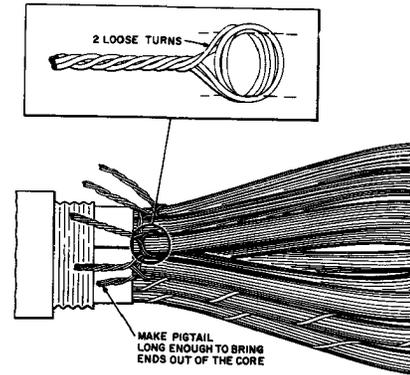

Fig. 1—Marking Binder Groups
5.01 The air-core PIC cable pairs are fully color coded as described in the 626-101, 632-033, and 632-034 Divisions of the Bell System Practices with pairs arranged in 25-pair binder groups consisting of a single 25-pair unit; two units of 12 and 13 pairs, or three units of 8, 8, and 9 pairs. ♦The three units of 8, 8, and 9 pairs construction are rated Mfr Disc.♦ Upon opening the end of air-core PIC cable or before working on one or more units, the binder groups should be marked to keep the pairs permanently associated. Use short lengths of paired plastic conductors of the same color combination as the binders or any of the commercially available ties. The method of placing binder group markers is illustrated in Fig. 1.